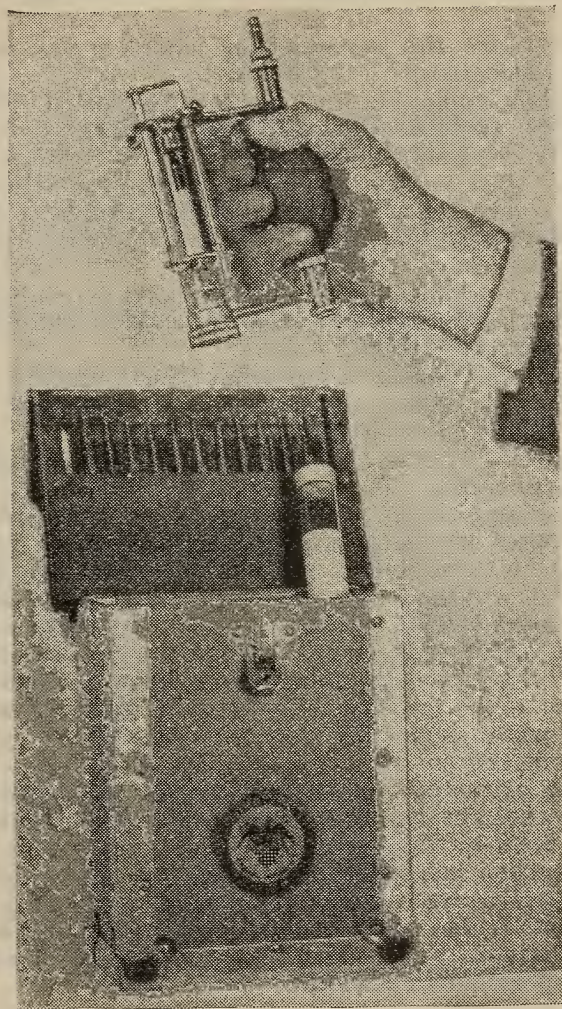

FIGURE 27.—The iodine pentoxide carbon monoxide detector is used in mine rescue and recovery operations.
58. Q. *What is carbon monoxide (CO)?*
A. By carbon monoxide detectors, by canaries, and by air analysis. (See fig. 27.)